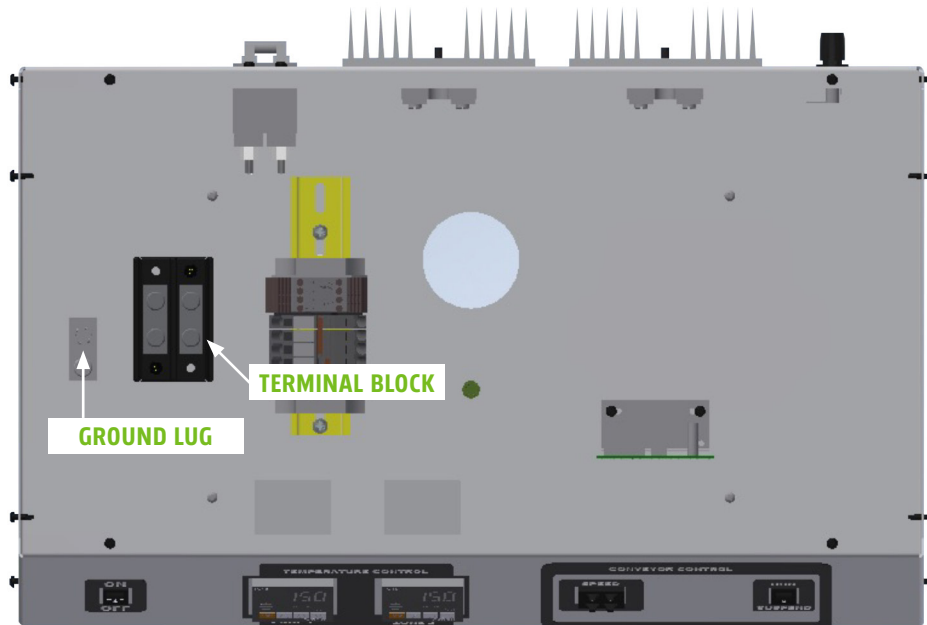

FIGURE 2 - SINGLE PHASE CONTROL PANEL
4. Place the POWER leads into the open side of the large TERMINAL BLOCK and tighten set screws. BE SURE NOT TO CLOSE WIRE INSULATION IN TERMINAL BLOCK. (FIG. 2 & 3)